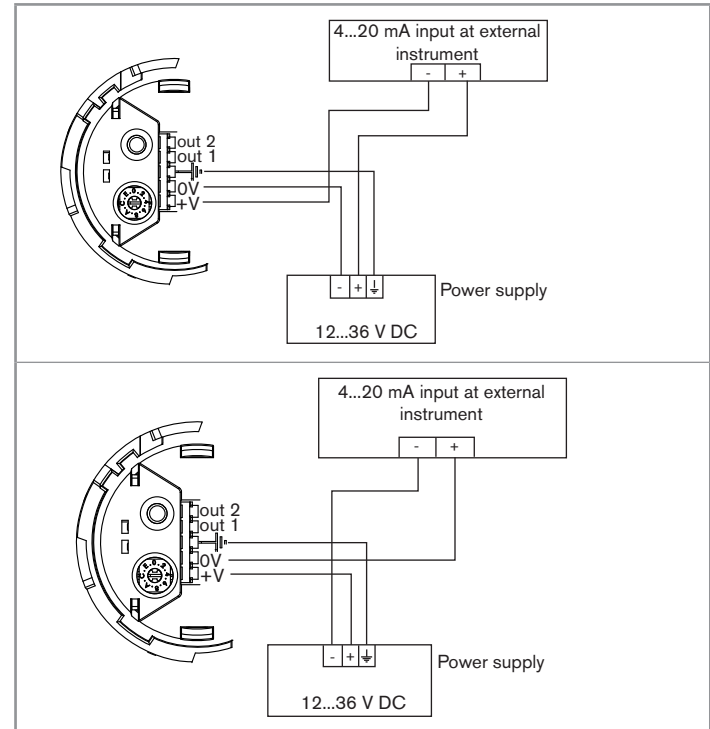

Fig. 14: Possible connections of the 4...20 mA current output on a device variant with cable gland
- Connect the 4...20 mA output (see Fig. 14).